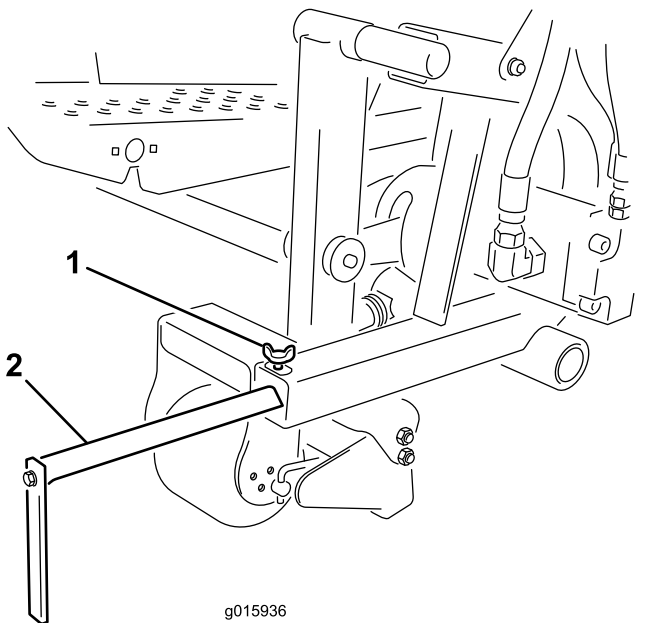

Figure 11
Loosen the adjustment screw and move the alignment guide to the desired position (Figure 11).
1. Loosen the screw and adjust the alignment guide for or aft to the desired position (Figure 11).